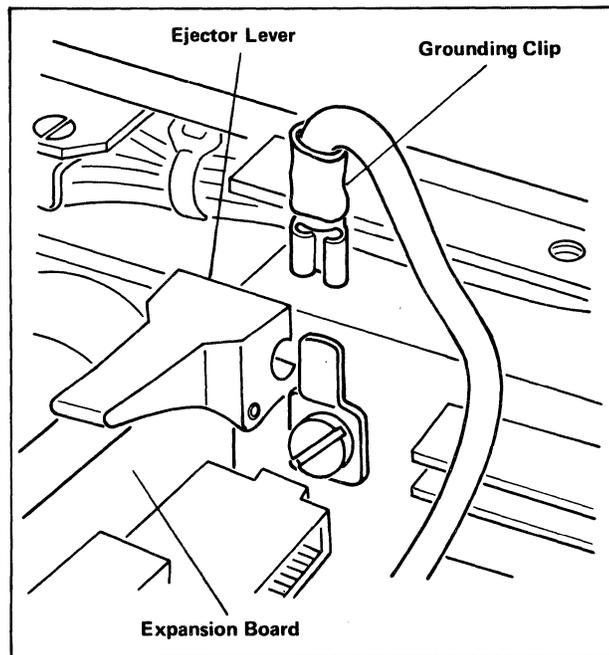

Figure 4-15. Grounding Clip
20. Disconnect the grounding clip connected to the frame ground lug on the side of the processor unit (See Figure 4-15).
4. Reconnect the grounding clip to the ground lug on the side of the processor unit frame (See Figure 4-15).